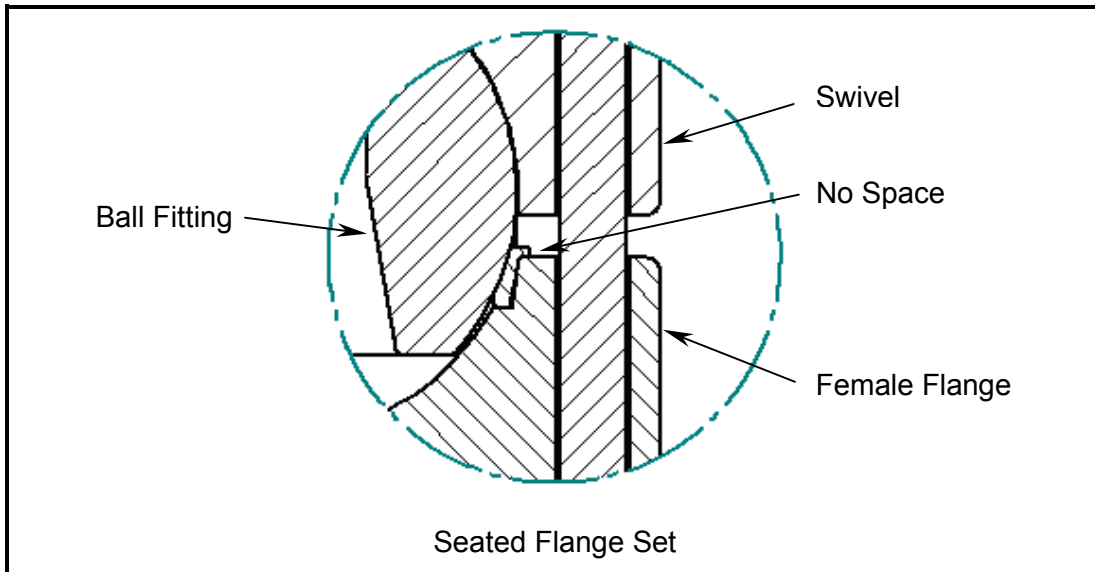

FIGURE 1-8
- As the tension is applied to the studs, the seal ring lip and the female flange come together until there is no space between them as shown in Figure 1-8 below. This will indicate that the seal ring is installed and seated properly.